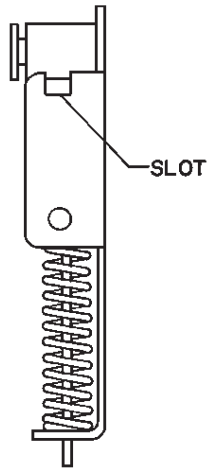

Figure 1
2. Locate top of disconnect switch operating mechanism. See Figure 1. Note Slot.